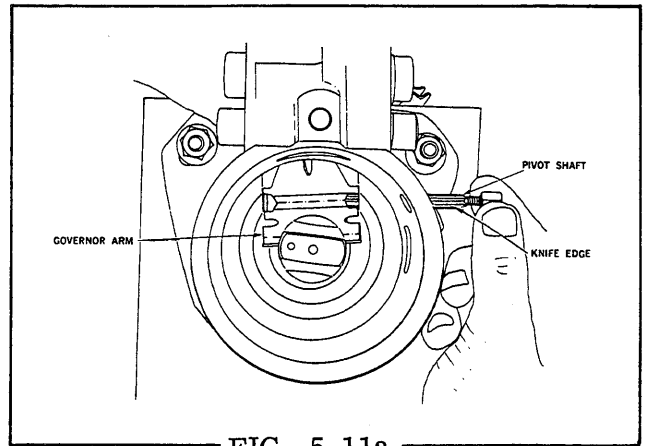

FIG. 5.11a
STEP 11 Place the governor arm in position in the housing with the fork for the governor linkage hook assembly facing the rear of the pump. Insert the pivot shaft (knife edge facing the rear of the pump), in the arm slot (Fig. 5.11a).